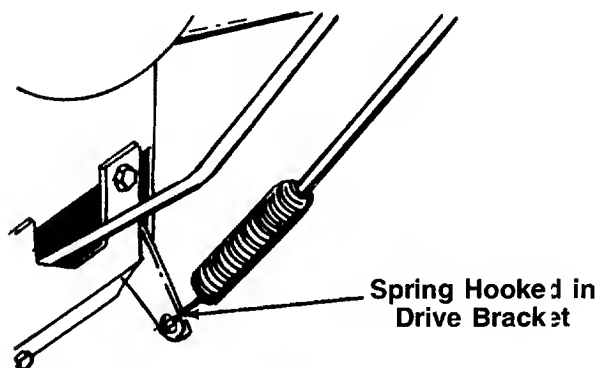

FIGURE 13.
3. Hook the traction drive cable into the drive lever. **There should not be any tension on the spring when the clutch lever is in the released position (up) position.** See figure 13.